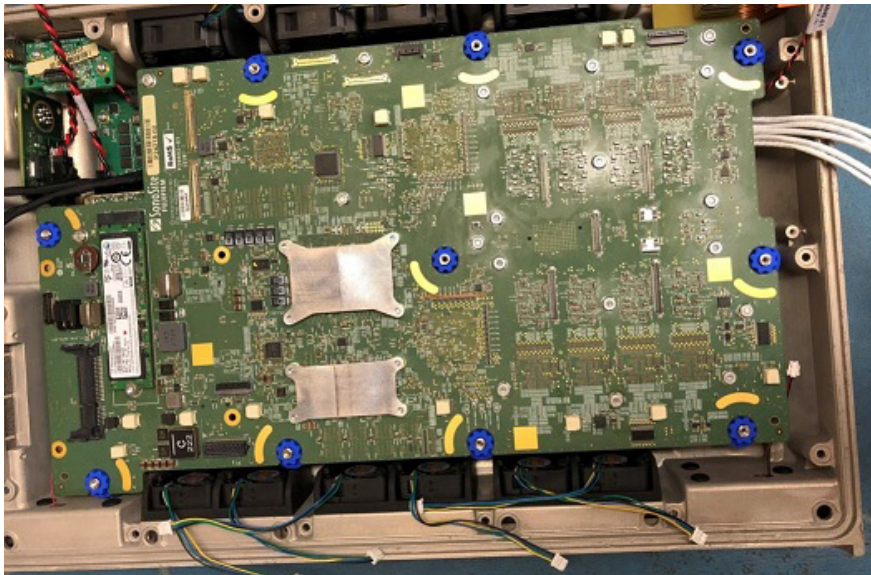

Figure 6.24 Main PCBA Install
- 1 Install the Main PCBA into the Bottom Enclosure. Align the cut-outs over the grommets on the mounting stand-offs and lower into place. It will be necessary to move wires and cabling to keep them out of the way as the board assembly is put into place. Reference Figure 6.24 on page 64.
- 2 Use a T20 bit to Install 10 screws along with the spring clip, flat washer and upper grommet and tighten to 5.5 inch pounds. The indent in the spring clip must sit inside one of the holes of the flat washer and the spring clip must make contact with the ground plane on the Main PCBA. Per Figure 6.24 on page 64, the left front screw does not include the spring clip.